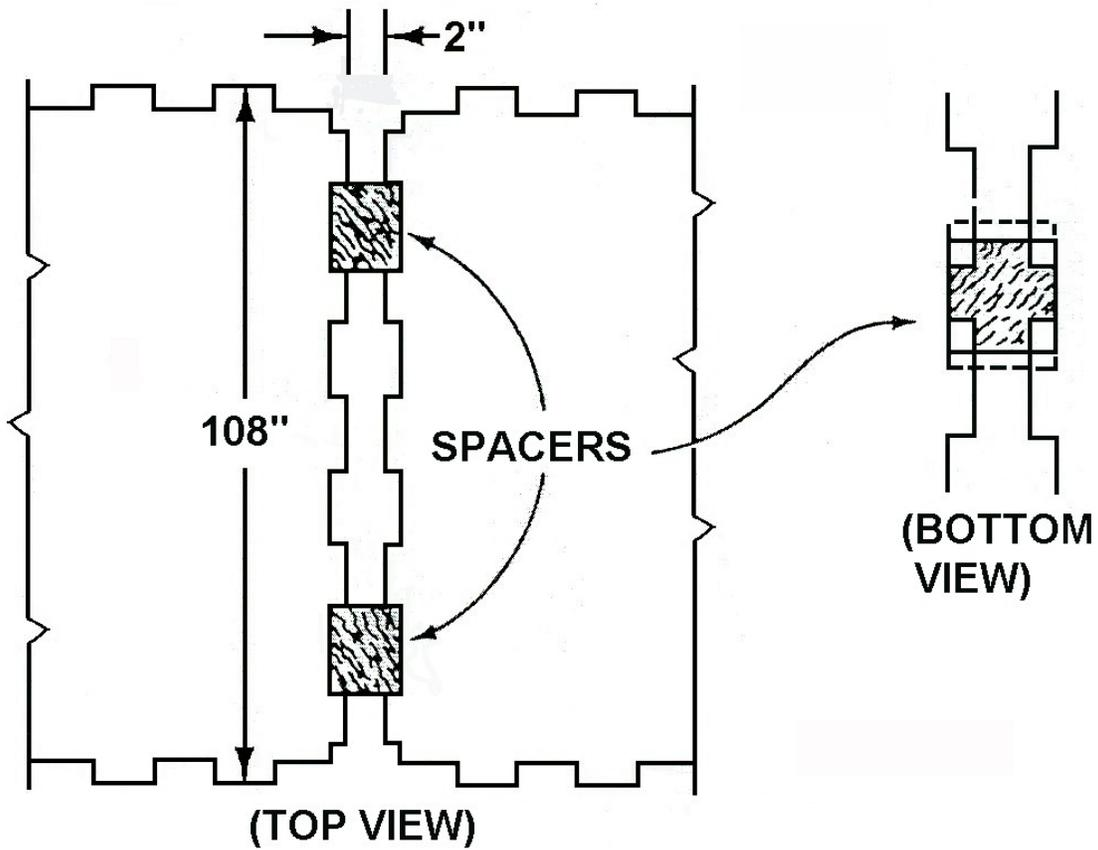

Figure 3-18
c. Place spacers between the pallets between the two ends in the indents and detents (see Figure 3-18).